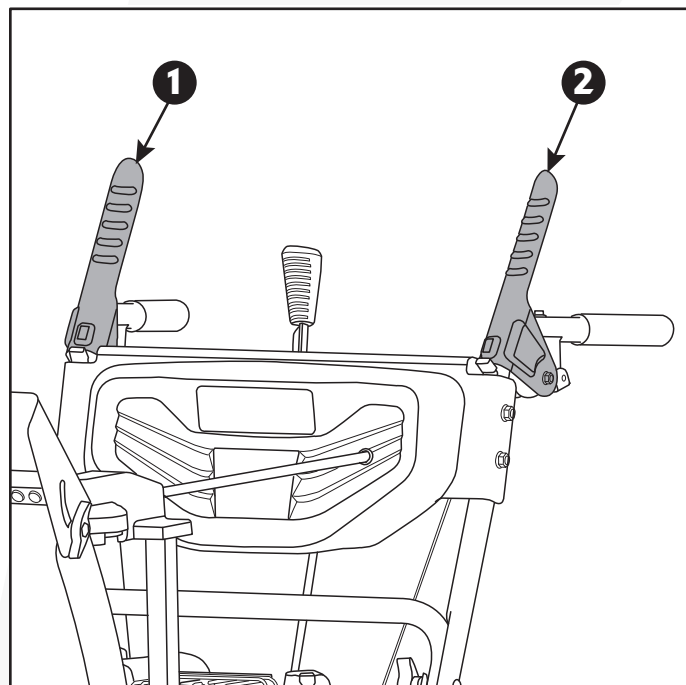

Fig. 12
1. Push down and grasp the self-propel control handle towards the body handle to engage the wheels. (Fig.12)
3. Push down and grasp the auger control handle towards the body handle to engage the auger and impeller. (Fig.12)